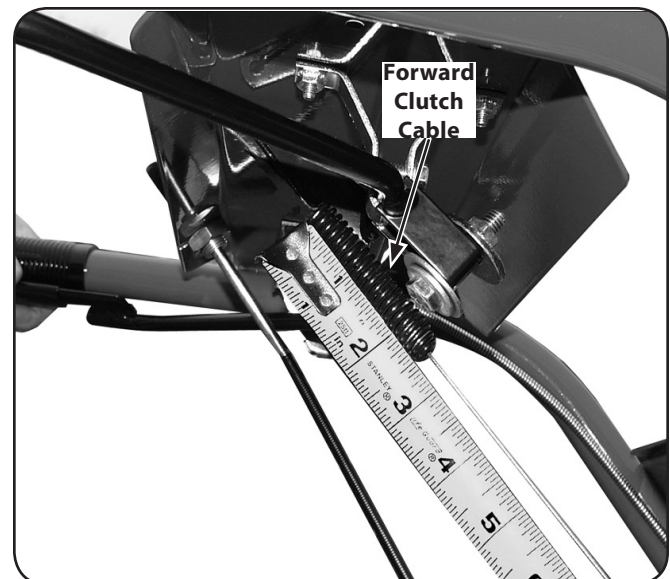

Figure 6-5
2. The coiled part of the forward clutch spring measures 2" in length when the Forward Clutch Control levers are not pulled up. Pull the Forward Clutch Control Lever up against the handlebar and measure the length of the coil on the forward clutch spring. Tension is correct if the length of the extended coil is 2-1/2". The forward clutch control cable needs adjustment if the extended length of the coil is not 2-1/2". See Fig. 6-5.